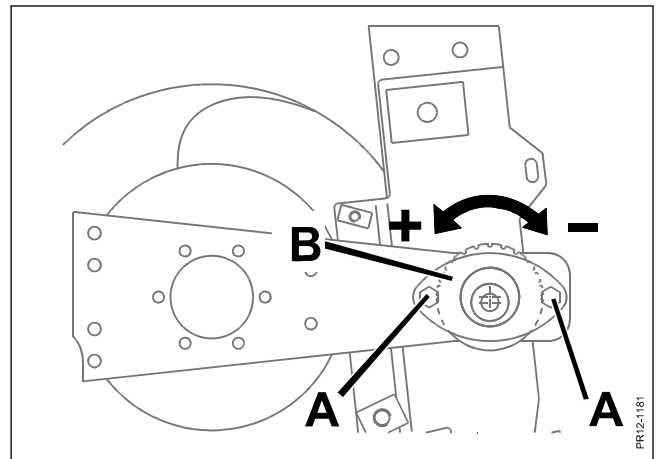

Fig. 7-9
- Fig. 7-9** Two bolts **A** are loosened after which the eccentric **B** can be turned with a screwdriver or the like. It is turned in + direction for tightening and in – direction for loosening.